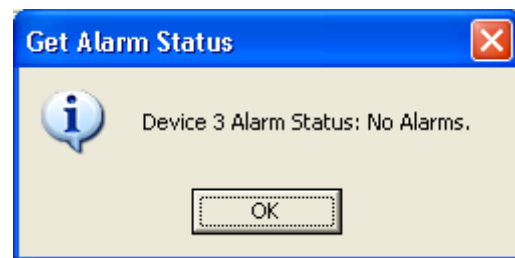

Figure 9-3. Alarm Status Query Results.
Figure 9-3 shows an example where the device reported that no alarms are present.
3. Click 'OK' to dismiss the 'Get Alarm Status' pop-up notification (Figure 9-3).